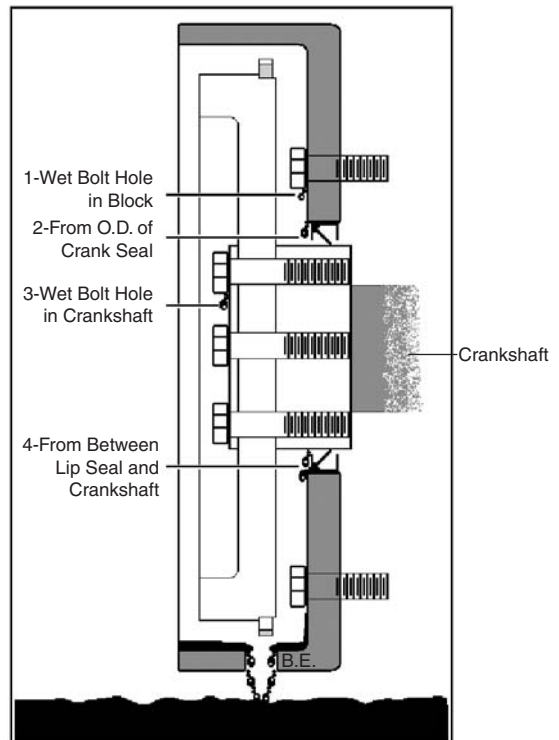

Fig. 11-9. Potential sources of engine oil leaks in the flywheel housing.
2. The flywheel must be removed to permit inspection of the possible sources of the leak (Fig. 11-9).